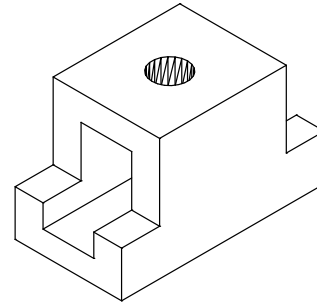

Figure 26-54 Model after subtraction
23. Subtract this cylinder from the existing model, refer to Figure 26-54.